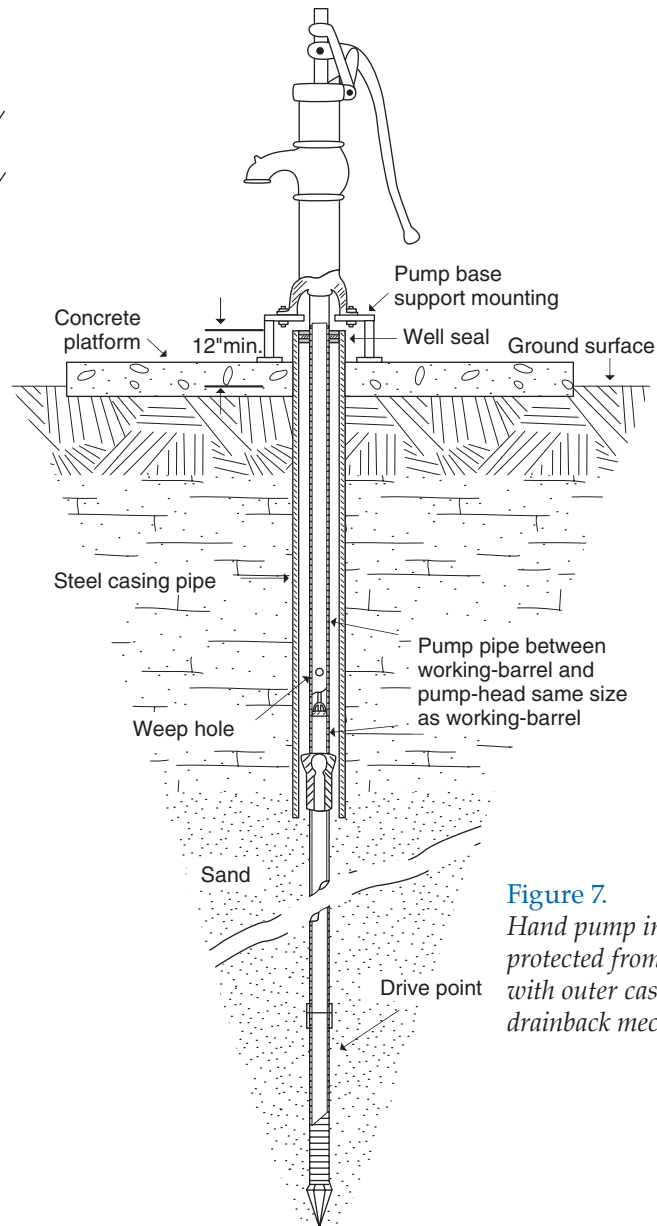

Figure 7.
- ▼ Outside, protected with an outer protective casing (Figure 7).